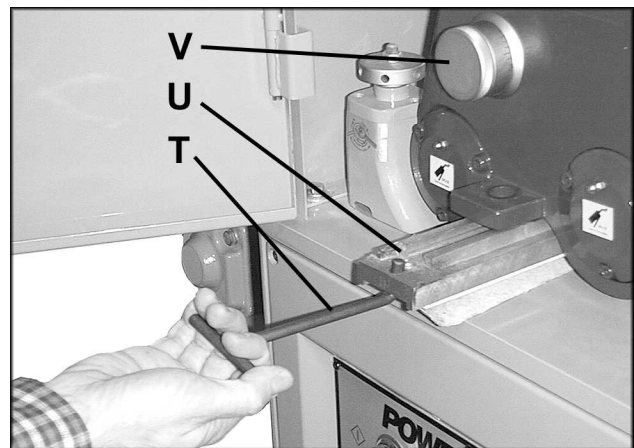

FIGURE 20
2. Insert the special pulling tool (T, Fig. 20) into the hole in the platen (U, Fig. 20) and pull straight out.
4. Slide the female platen (U, Fig. 20) back into position and replace the platen block. Install the platen lock lever and secure.
NOTE: The height of the platen is adjusted at the factory but can be readjusted by rotating the platen bar adjusting scale (V, Fig. 20).